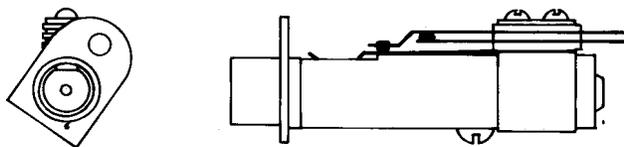

Fig. 1—575-Type Jack
2.01 **575A, B, and C:** These are coaxial type jacks (Fig. 1).